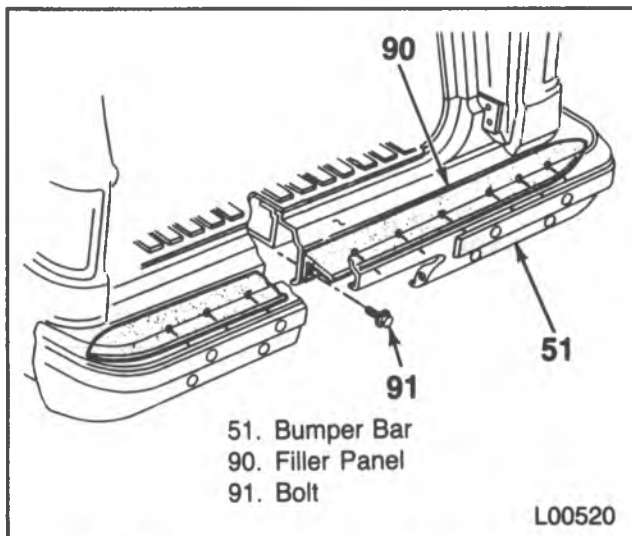

Figure 10 — Rear Bumper Center Filler
9. Filler panel (Suburban only) (figure 10).